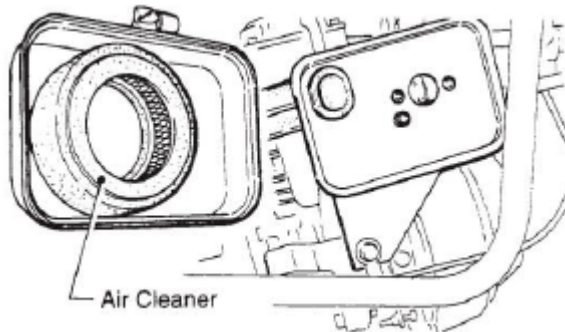

Figure 12 Engine Air Cleaner
- The air cleaner (Figure 12) on the engine side will hardly be contaminated, if it is, however after cleaning the element with kerosene, dip it in mixed oil consisting of 3 parts of gasoline and 1 part of engine oil. Then tightly squeeze outer primary element (sponge) and shake off well the inner secondary element before installing them.